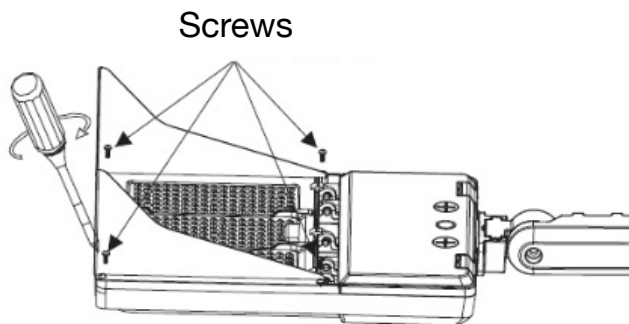

Fig. 15
2. Secure the visor using the 4 screws provided in the package with the visor (Fig. 15 and 16).